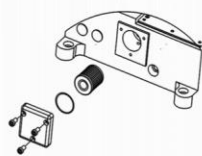

图7 (Fig.7)
(3) 滤油器的更换 (图7)
3. Replacing oil filter: (Fig.7)